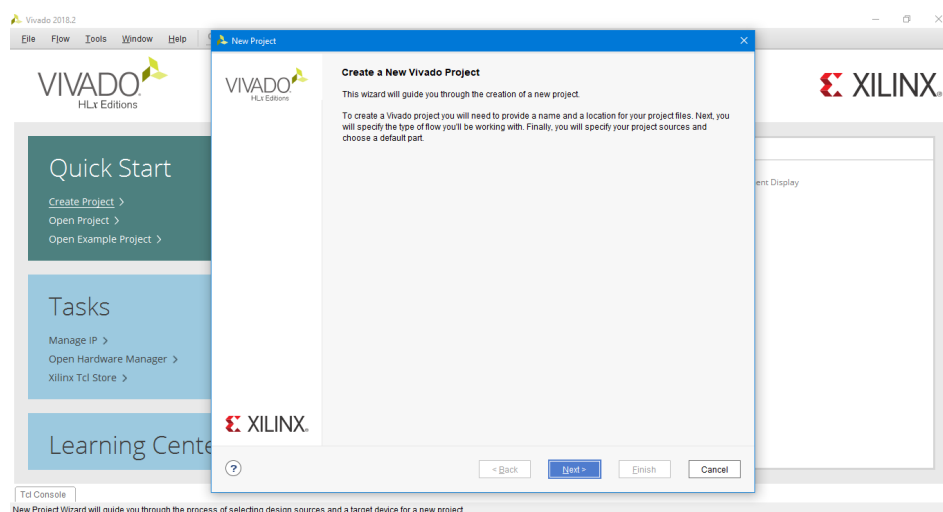

Fig. 3.2: Project Dialog Box
1. From *Quick Start* click on *Create Project*. A new project dialog box will appear. Click on *Next*. (Fig. 3.2)